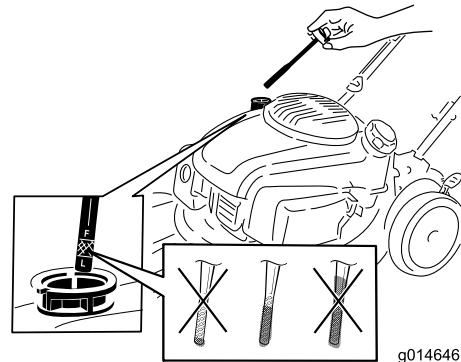

Figure 4
1. Remove the dipstick (Figure 4).
2. **Slowly** pour oil into the oil-fill tube until the oil level reaches the Full line on the dipstick (Figure 4). **Do not overfill.** (Max. fill: 0.65 L (22 oz), type: 10W-30 or SAE 30 detergent oil with an API service classification of SJ or higher.)
Note: Each time you check the oil level, remove the dipstick and wipe it clean, insert it into the oil filler neck (but **do not** screw it in), then remove it again and check the level (Figure 4).